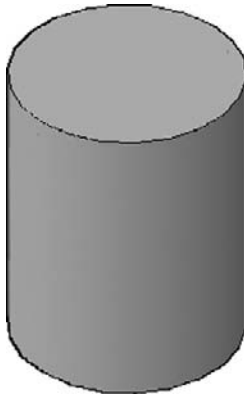

FIGURE 22.5
- Step 4.** Drag your mouse up (or enter a value) and the cylinder shape is automatically extruded, as seen in Figure 22.5.